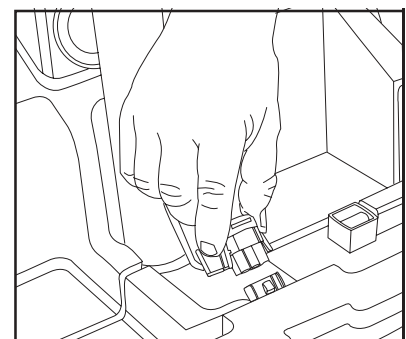

Figure 17. Front-To-Rear Harness
5. Unplug the front-to-rear harness. See figure 17.